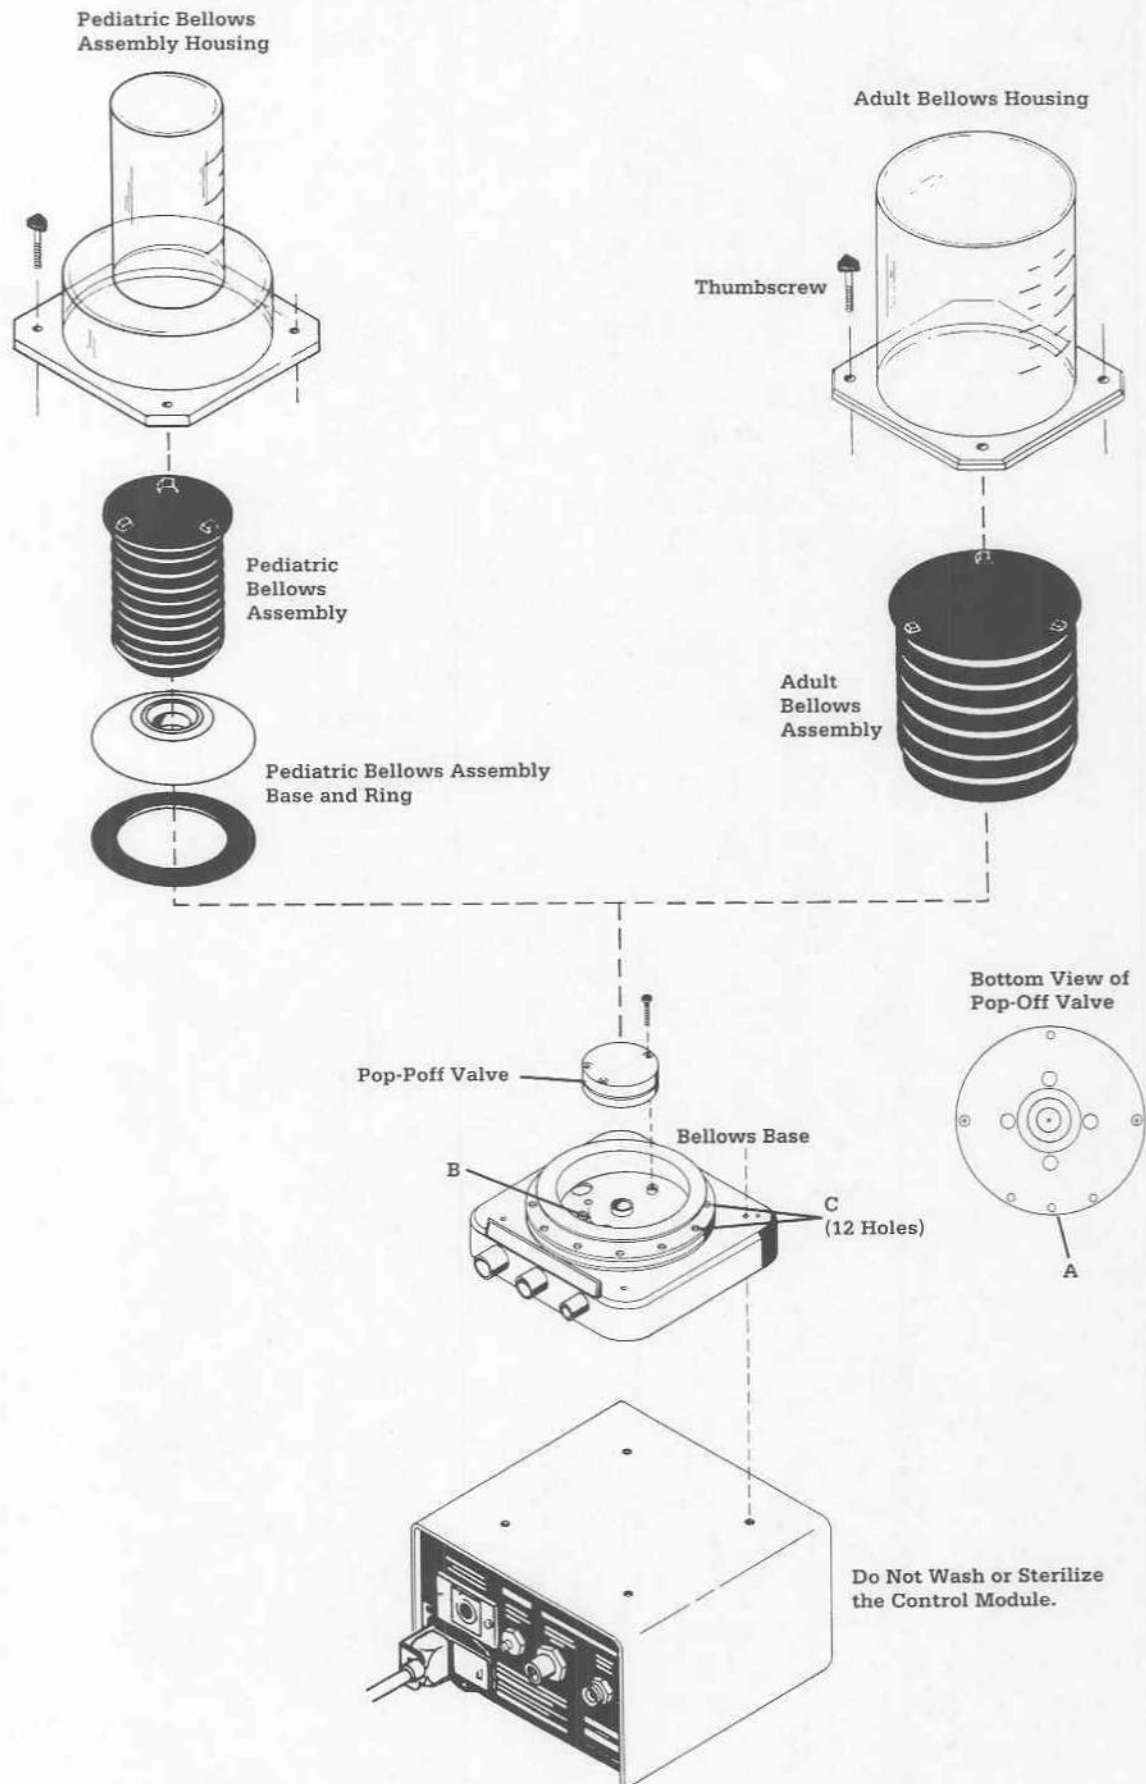

Figure 4-15
3. Use Figure 4-15 as a guide for further disassembly.
Except for the control module, those parts shown in Figure 4-15 may be washed with a mild soap and water solution. Make sure to dry the parts thoroughly.
- d. Do not submerge the Pop-off Valve. Liquids can become trapped within the valve. Clean the exterior surfaces with a soft cloth dampened in a solution of warm water and mild liquid detergent. Do not allow liquid to enter the Drive Gas Port (see Figure 4-15 Port "A"). Rinse the cloth in clean cold water and wipe the valve to remove all soap. Dry thoroughly before use and before sterilization.
⚠WARNING: Liquids or any foreign material trapped within the driving gas circuit of the Pop-off Valve (Port "A", Figure 4-15) and Bellows Base (Port "B" and Ports "C", Figure 4-15) can impair operation of the Pop-off Valve. Do not use the Pop-off Valve or Bellows Base if this is suspected. If complete disassembly is required to remove trapped foreign material, perform Pop-off Valve Perform-
⚠WARNING: Liquids or any foreign material trapped within the driving gas circuit of the Pop-off Valve (Port "A", Figure 4-15) and Bellows Base (Port "B" and Ports "C", Figure 4-15) can impair operation of the Pop-off Valve. Do not use the Pop-off Valve or Bellows Base if this is suspected. If complete disassembly is required to remove trapped foreign material, perform Pop-off Valve Performance Test (see Section 3.2) and Bellows Assembly Leak Test (see Section 3.3) before reuse.